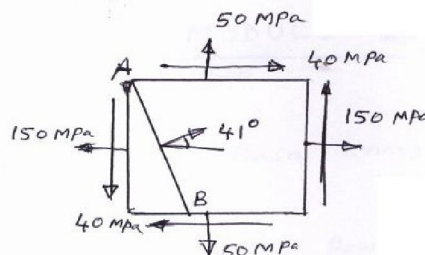

Fig. Q3 (b)
- b. At a point in a strained material the stresses acting are as shown in Fig. Q3 (b). Determine the (i) Principal stresses and their planes (ii) Maximum shear stress and their planes (iii) Normal and shear stresses on the inclined plane AB. (12 Marks)